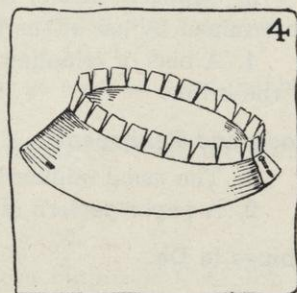

FIG. 4.
- Turn slashes up on headsize line (see Figure 4).
- See Figure 4.
b. Stretch binding, raw edge, over edgewire, then baste binding to edge (see Figure 4 of Job 24, page 101). Be sure to start at the back. This binding prevents the wire from showing through the outer covering in the finished hat.